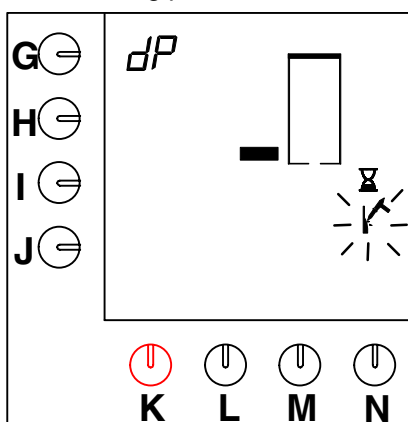

Fig. 25 Pause for interaction of the descaler
- When the water is hot, a sandglass and a flashing hammer symbol appears on the display (fig.25 ). A 5 minutes waiting time follows to let the renegite do its job.